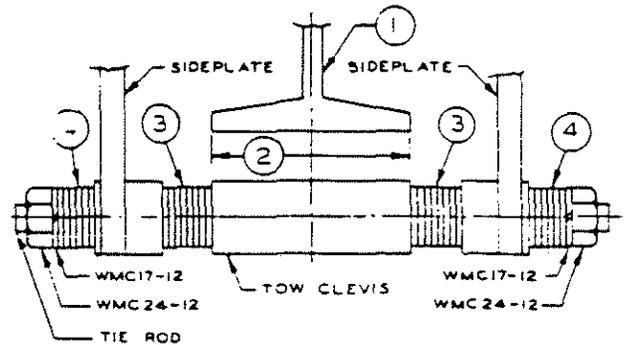

FIGURE 2
3. Rearrange washers to suit beam flange width. Refer to Fig. 2 and chart, Fig. 3. (Tow clevis is equal to 16 washers.) NOT APPLICABLE for Monorail Suspension
* Items indicated on Figure 2.
Figures 2 and 3 not applicable for Monorail Suspension